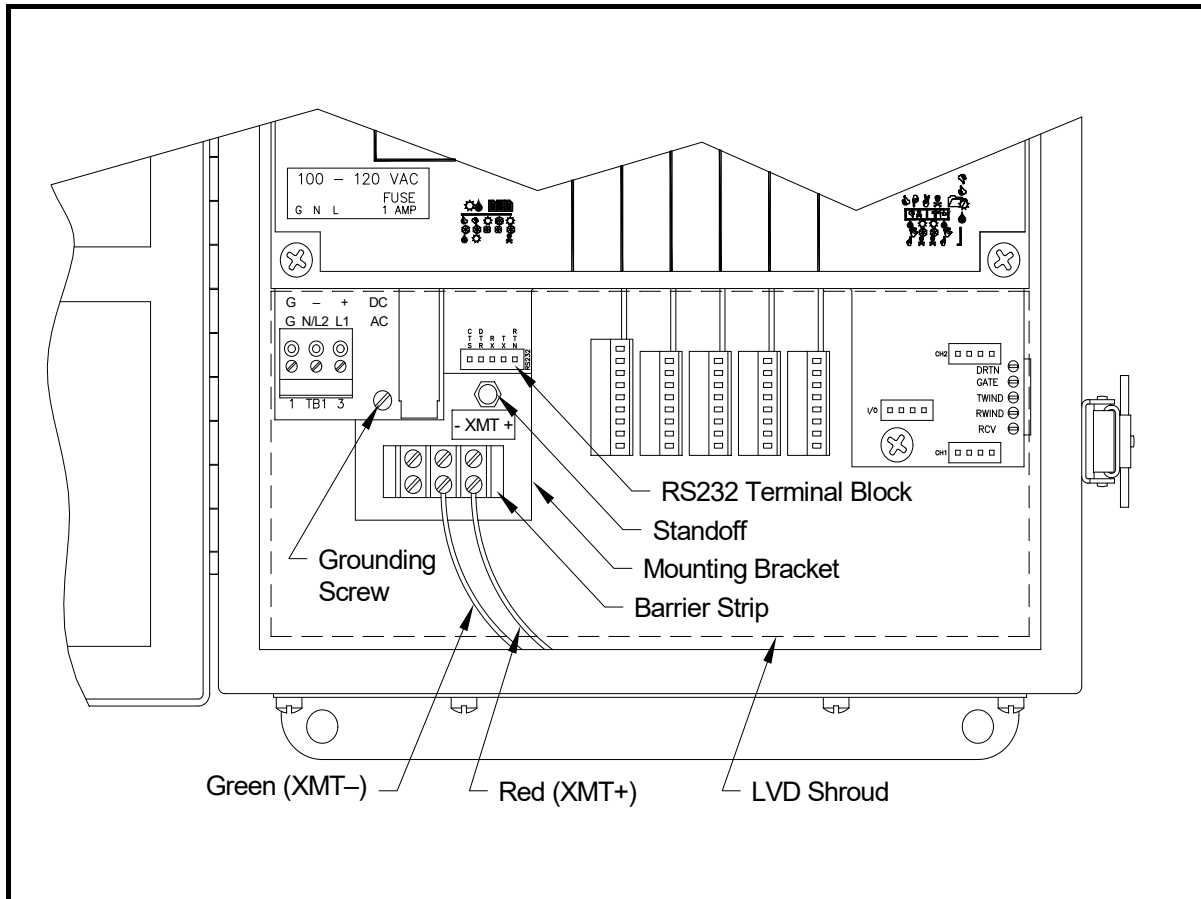

Figure 6-1: Interface Converter Mounting
A special bracket containing the serial interface converter and a three-terminal barrier strip is mounted inside the Model GC868, just below the **RS232** terminal block (see Figure 6-1 below). The standard **RS232** terminal block is wired to the input of the serial interface converter, and the RS-485 output of the serial interface converter is wired to the barrier strip.
Standard factory wiring of the RS485 serial interface is configured for point-to-point wiring. That is, a single Model GC868 may be wired directly to a single personal computer. To connect the RS485 serial interface, refer to Figure 6-1 on page 6-4 and complete the following steps:
3. Remove the serial interface converter *mounting bracket* by removing the standoff located just below the **RS232** terminal block and the grounding screw to its left (see Figure 6-1 on page 6-4).